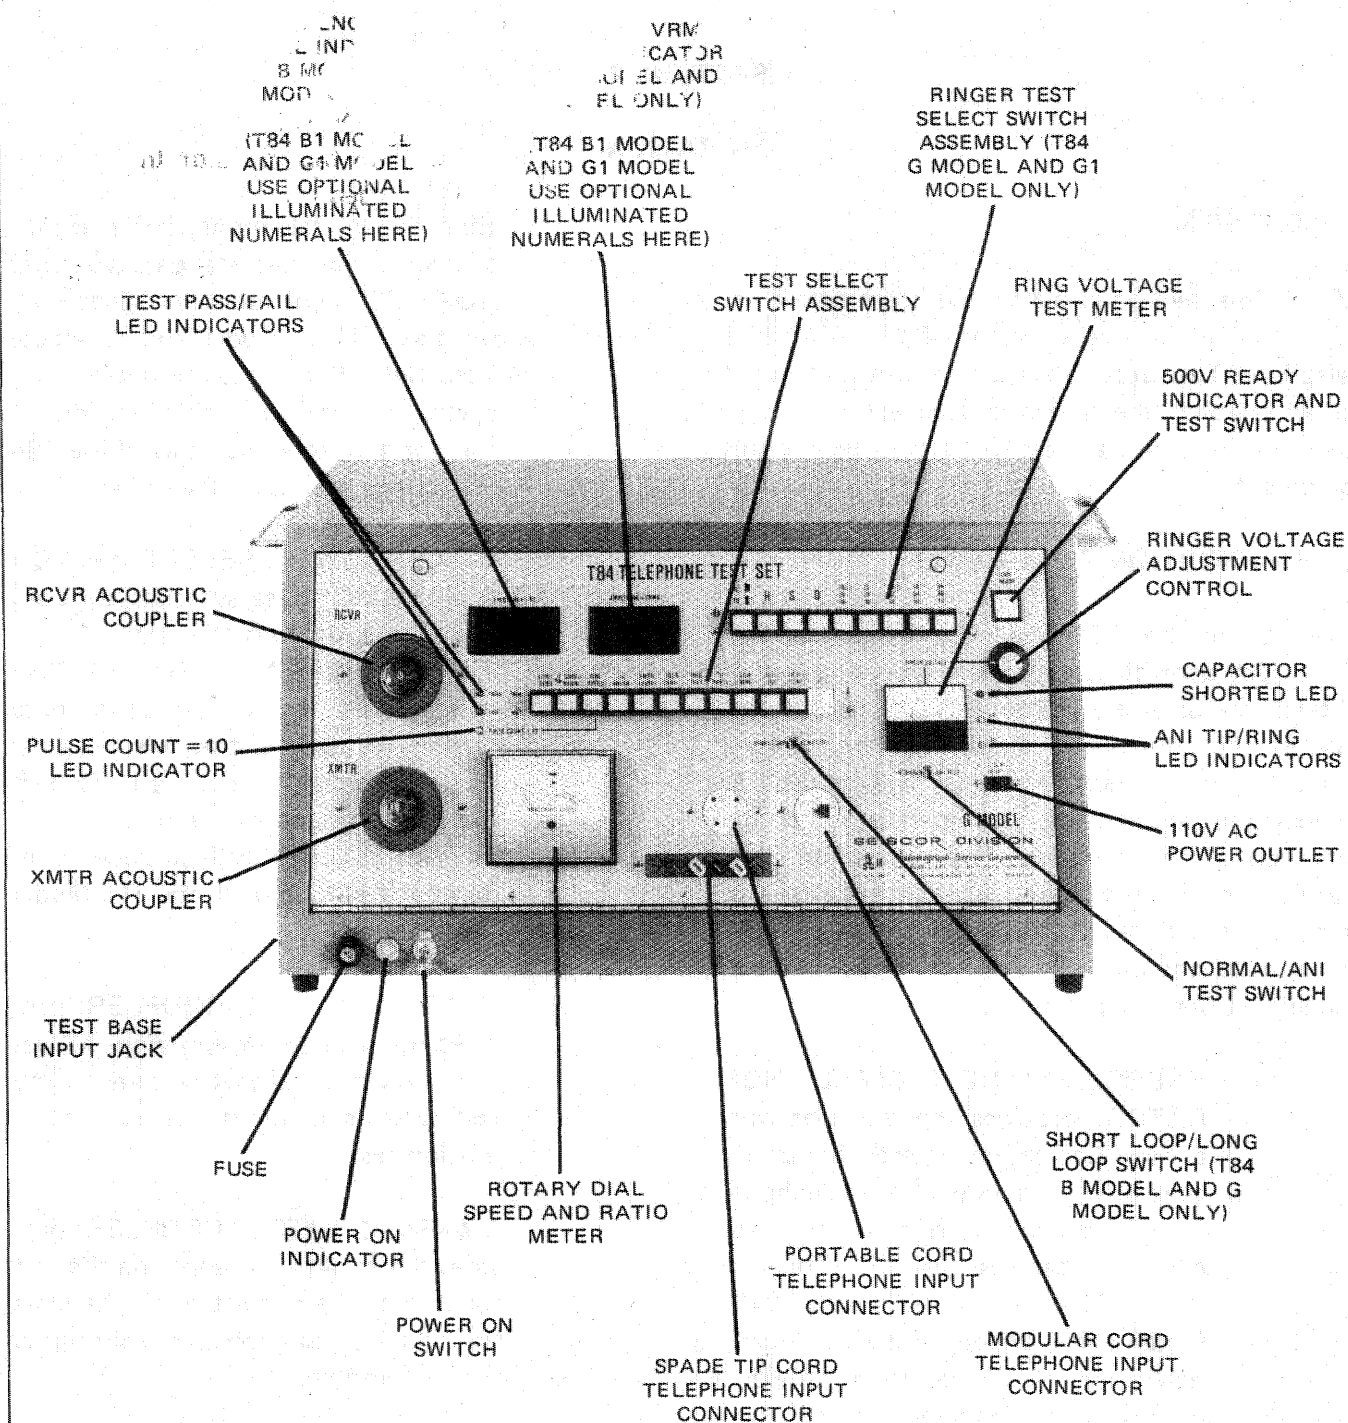

Fig. 2. T84 G Model Telephone Test Set Panel Controls
2.01 Since the T84 G Model Telephone Test Set control panel is most representative of all test features of the T84 series Test Sets, the purpose of the controls, indicators, test connectors, and acoustic couplers of this set will be used as an example to acquaint the operator with the operation of the complete T84 series Test Sets. Clarifying notation will be used, as appropriate, to point out the differences between the sets. Fig. 2 shows the front panel of the T84 G Model Telephone Test Set, for reference.